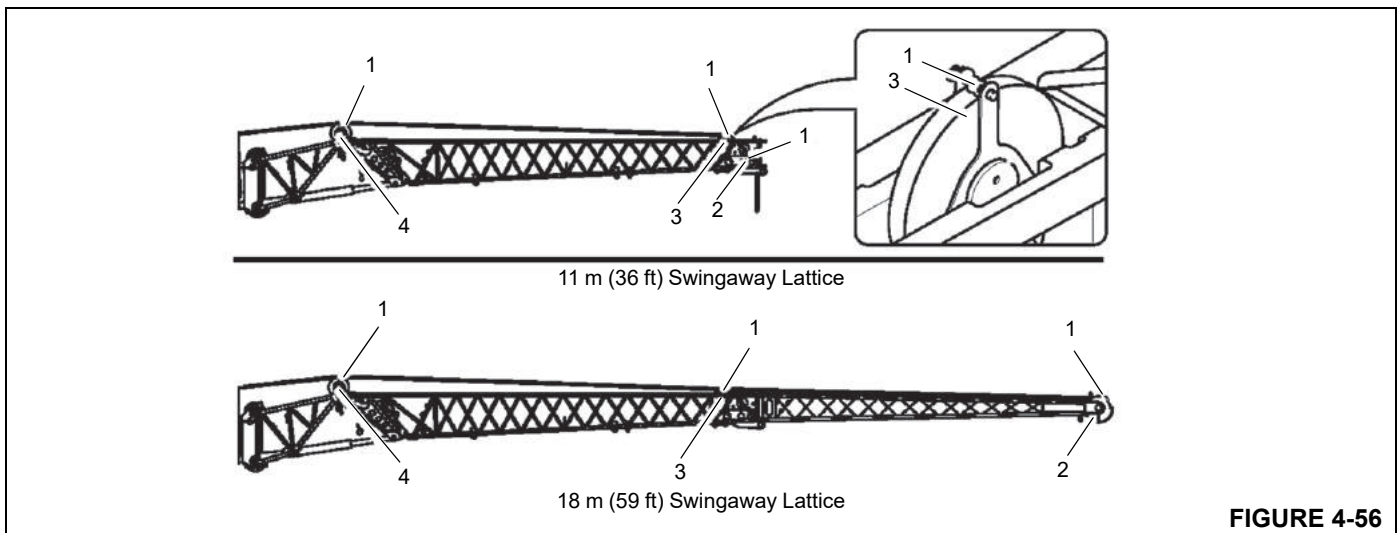

FIGURE 4-56
1. Remove the retaining sheaves (1) (Figure 4-56).
2. Guide the wire rope over the deflection sheaves (4), (3) and over the nose sheave (2) of the extension.
3. Reinstall all the retaining sheaves (1) and secure with retaining clips.
2. Remove the retaining sheaves (1) (Figure 4-56).
3. Take the wire rope off the head sheave (2) and deflection sheaves (4), (3) and place it on the ground on the left side.